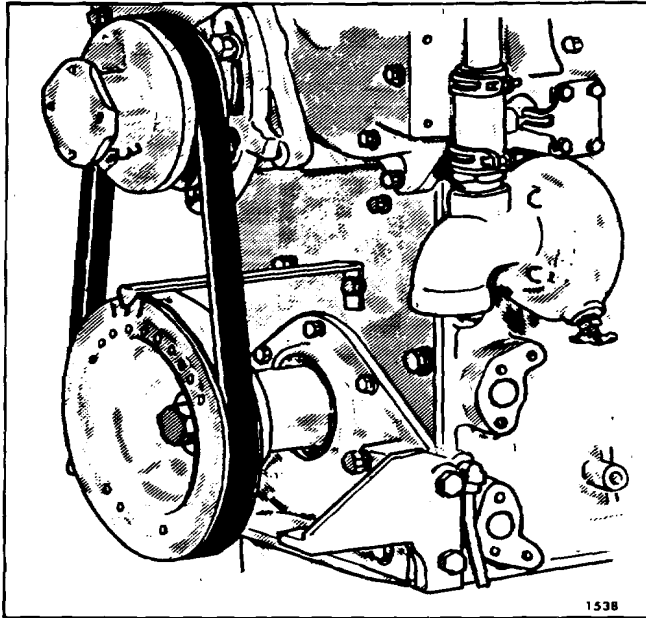

Fig. 2 - Pointer Installation For Marking Top-Dead-Center
8. Provide a suitable pointer and attach it to the crankshaft front cover or engine front end plate as illustrated in Fig. 2. The pointer should extend over
15. Scribe a third line halfway between the first two lines. This is positive top-dead-center. The three scribed lines are shown on the crankshaft pulley in Fig. 2. Remove the indicator from the engine.